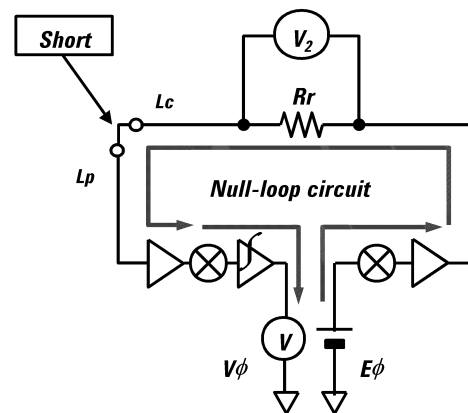

Figure 6. Bridge circuit stability improvement by phase compensation
In the null-loop circuit, shown in Figure 6, the signal source ( $E\phi$ ) is located in front of the vector generator, and the vector voltmeter ( $V\phi$ ) is located after the integrated circuit. When connecting both low terminals,  $L_p$  and  $L_c$ , together, the output signal from the signal source ( $E\phi$ ) can flow clockwise through the null-loop circuit, and is measured at the vector voltmeter ( $V\phi$ ) in order to characterize the whole null-loop circuit. By performing this phase compensation, the ABB circuit acquires the capability to balance both at high frequencies, and when long extension cables are used.
As shown in Figure 6, the phase compensation function is available on the 4294A.
As shown in Figure 6, the phase compensation function is available on the 4294A. After setup is complete, phase compensation should be performed.
- Connect the two low terminals, Lp and Lc, together as shown in Figure 6. When using the DCP probe (non-Kelvin type) from Cascade Microtech, the probe should be floating from the chuck because both terminals already have been connected together in the probe. When using the Kelvin probe, Lp and Lc terminals should be connected together by using the short on the ISS, which is provided from Cascade Microtech.